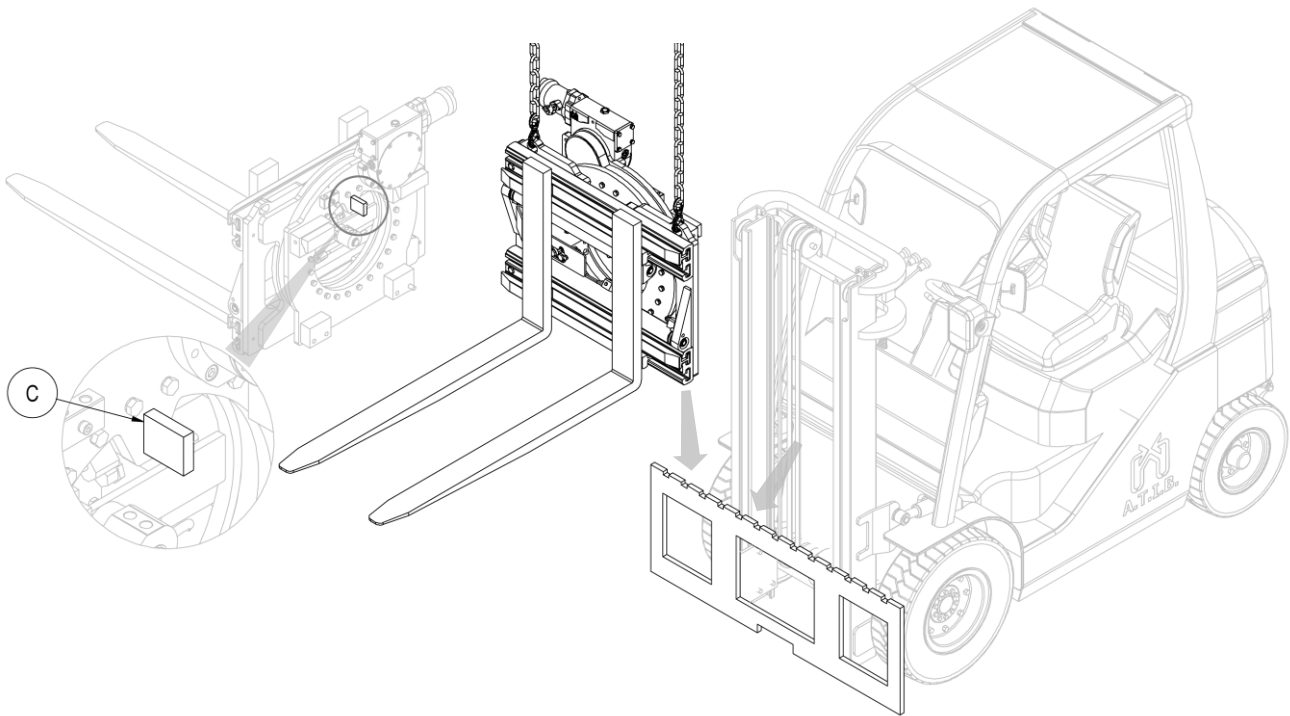

Figure 3
6. Using an overhead crane or hoist of sufficient capacity, place the equipment on the fork carriage, taking care to engage the centring pin **C** in its central notch (see *Figure 3*).